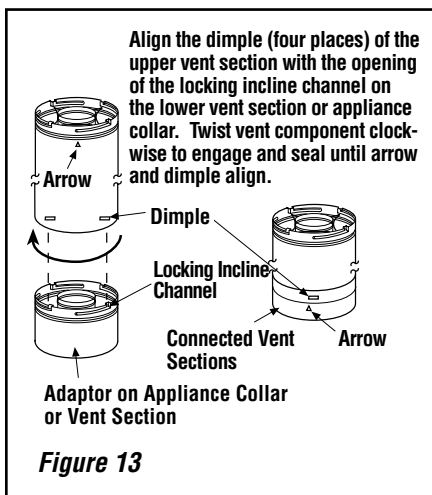

Figure 13
B. Attach adaptor (with probe) to appliance collar. Secure Vent™ SV4.5 direct-vent system components are unitized concentric pipe components featuring positive twist lock connections (*see Figure 13*).
To attach a vent component to the adaptor on appliance collar, align the dimpled end over the adaptor collar, adjusting the radial alignment until the four locking dimples are aligned with the inlet of the four inclined channels on the collar (*refer to Figure 13*). Push the vent component against the collar until it fully engages, then twist the component clockwise, running the dimples down and along the incline channels until they seat at the end of the channels.
Push the vent component against the previous section until it fully engages, then twist the component clockwise running the dimples down and along the incline channels until they seat at the end of the channels. **This seating position is indicated by the alignment of the arrow and dimple as shown in Figure 13.**
F. Change vent direction to horizontal/inclined run - At transition from or to a horizontal/inclined run, install the SV4.5 E45 and SV4.5 E90 elbows in the same manner as the straight vent sections. The elbows feature a twist section to allow them to be routed about the center axis of their initial collar section to align with the required direction of the next vent run element. **Twist elbow sections in a clockwise direction only so as to avoid the possibility of unlocking any of the previously connected vent sections (see Figures 13 and 15).**
Secure Vent™ SV4.5 direct-vent system components are unitized concentric pipe components featuring positive twist lock connection, (refer to **Figure 13 on Page 14**). All of the appliances covered in this document are fitted with collars having locking inclined channels. The dimpled end of the vent components fit over the appliance collar to create the positive twist lock connection.
D. Attach vent components to appliance - To attach a vent component to the appliance collar, align the dimpled end over the collar, adjusting the radial alignment until the four locking dimples are aligned with the inlets of the four incline channels on the collar (refer to **Figure 13 on Page 14**).
Other vent sections may be added to the previously installed section in accordance with the requirements of the vent tables. To add another vent component to a length of vent run, align the dimpled end of the component over the inclined channel end of the previously installed section, adjusting the radial alignment until the four locking dimples are aligned with the inlets of the four incline channels of the previous section. Push the vent component against the previous section until it fully engages, then twist the component clockwise running the dimples down and along the incline channels until they seat at the end of the channels. **This seating position is indicated by the alignment of the arrow and dimple as shown in Figure 13 on Page 14.**
H. Change vent direction - At transition from or to a horizontal/inclined run, install the SV4.5E45 and SV4.5E90 elbows in the same manner as the straight vent sections. The elbows feature a twist section to allow them to be routed about the center axis of their initial collar section to align with the required direction of the next vent run element. **Twist elbow sections in a clockwise direction only so as to avoid the possibility of unlocking any of the previously connected vent sections (see Figure 13 on Page 14).**